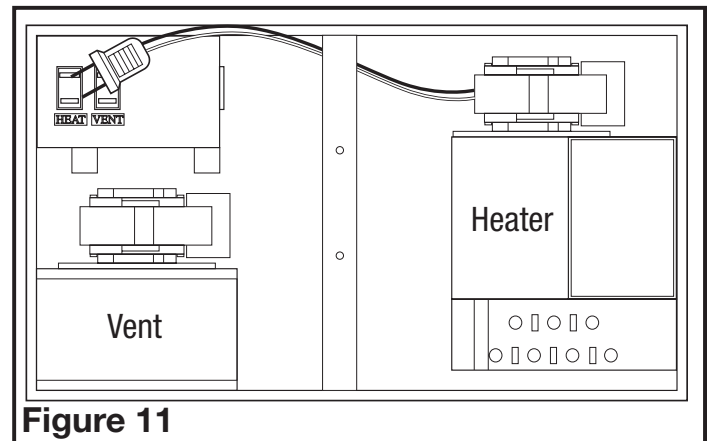
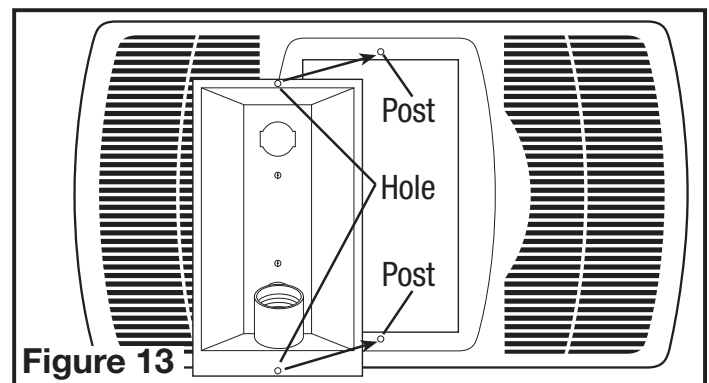

Figure 11
Figure 13
1. Insert the plug from the heating unit into the receptacle marked "HEAT", and the plug from the fan into the receptacle marked "VENT" (**Figure 11**).
3. Install light reflector into grill by lining up the posts on grill with the holes in light reflector (**Figure 13**). Raise light reflector and grill up to housing and insert plug from light into receptacle marked "LIGHT" (located on the side of the wire compartment) (**Figure 11**).